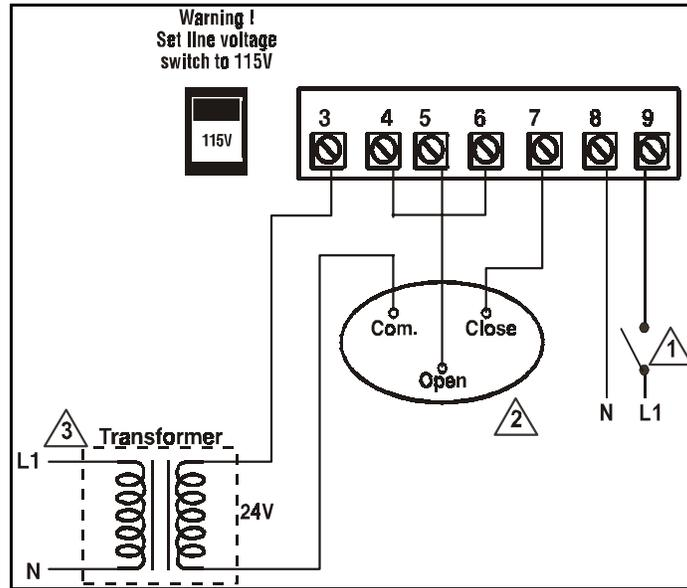

Fig 3 2 Wire DC Actuator
- For a 2 wire DC actuator, refer to Figure 3.
Make connections as indicated in Figure 3.